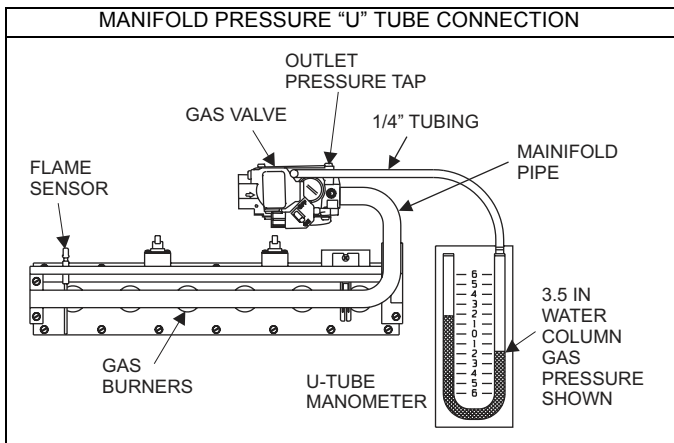

FIGURE 29: Reading Gas Pressure
The inlet and manifold gas pressure may be measured by connecting a "U" tube manometer to the gas valve with a piece of tubing. Follow the appropriate section in the instructions below. Refer to Figure 29 for a drawing of the locations of the pressure ports on the gas valve.
6. Refer to Figure 29 for location of pressure regulator adjustment cap and adjustment screws on main gas valve.